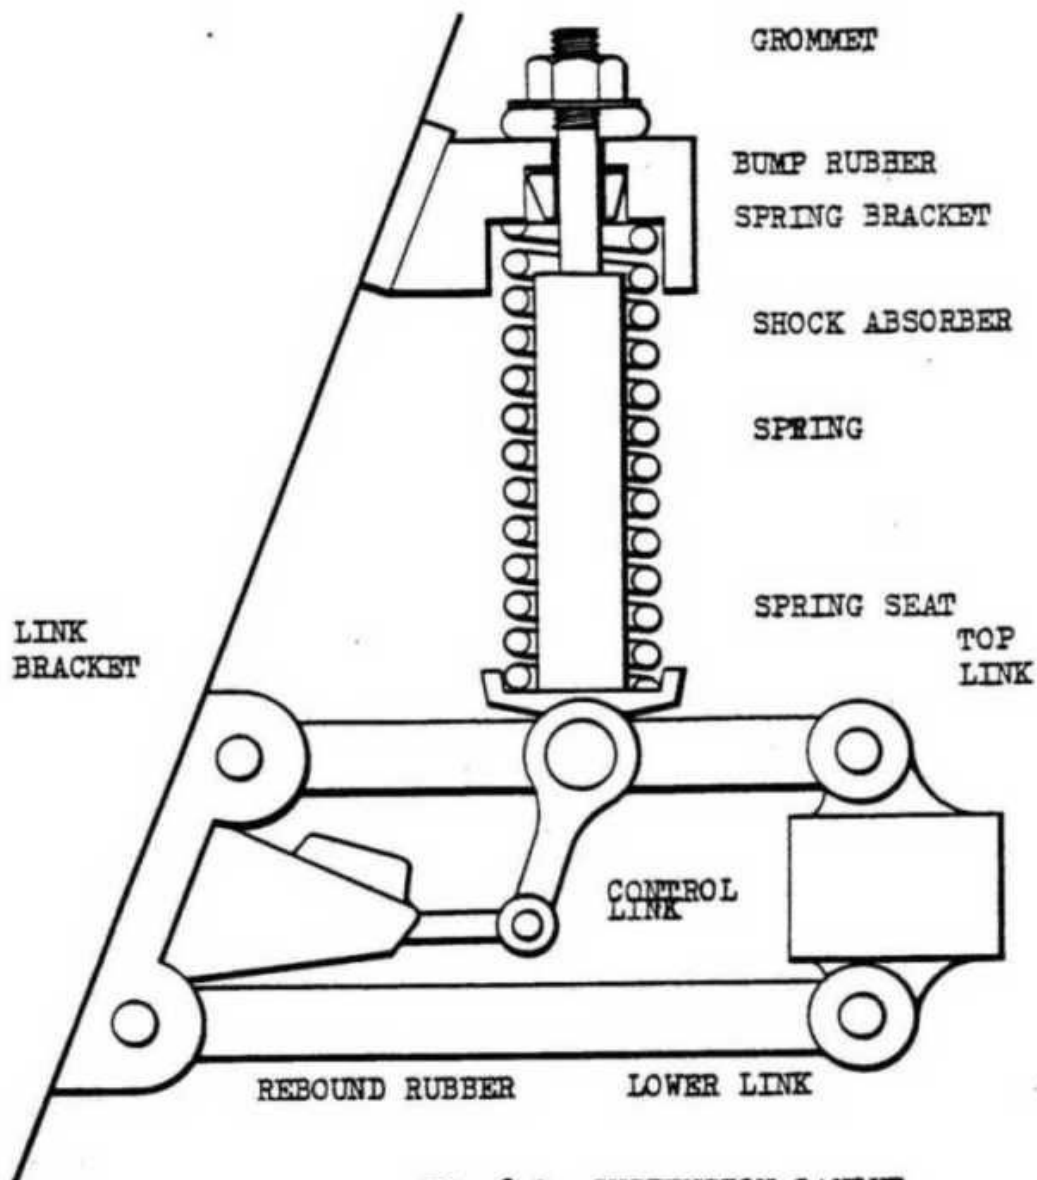

Fig 8.1 SUSPENSION LAYOUT
8.1 Description. (Fig 8.1) Independent suspension units are fitted at each wheel station. Each comprises a link bracket, bolted to the hull, with the top and bottom links pivoting about pins in the bracket. The hub assemblies are mounted on pins at the outer ends of the links. A pivot pin, turning in eyes in the upper link, provides fitment for the spring seat and the shock absorber case eye. The top of the spring, and the shock absorber rod end, are fitted in the spring bracket bolted to the hull directly above each suspension unit. A "tail", part of each spring seat, is pinned to a control link which pivots on the rebound rubber bracket. The bump rubber is clamped between a shoulder on the shock absorber rod and the spring bracket.